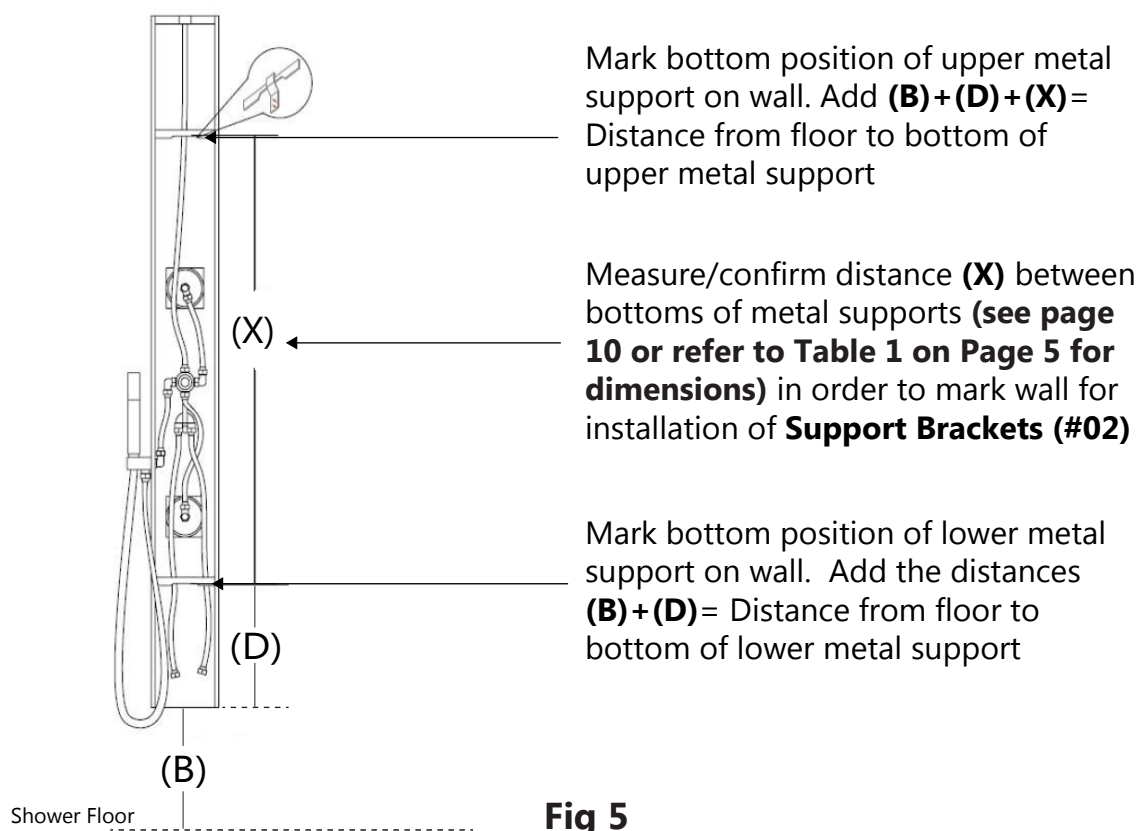

Fig 5
5. Measure the distance between the bottom edges of the two metal supports on the back of the shower panel (**X**). This dimension is also provided by the manufacturer on **page 10** for comparison. Measure from the bottom of the unit to the bottom of the lower metal support (**D**). Using a level, draw two small lines on the wall to indicate the bottom edge of each metal support. (**Fig 5**)